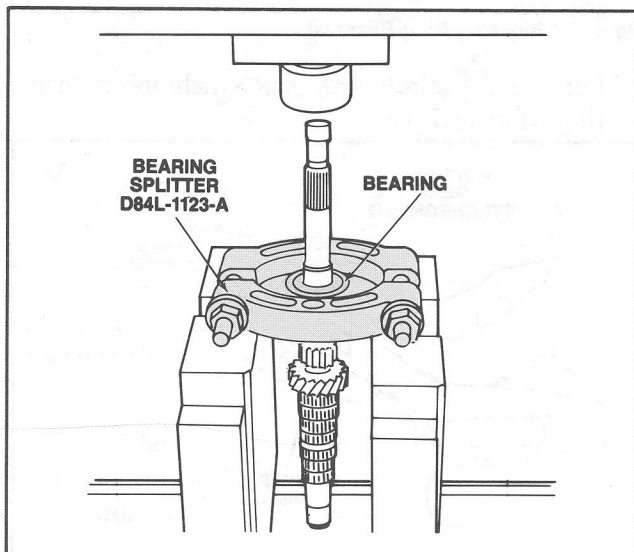

Figure 77 Bearing Removal
8. Remove the bearing from the input end of the shaft. (Figure 77).